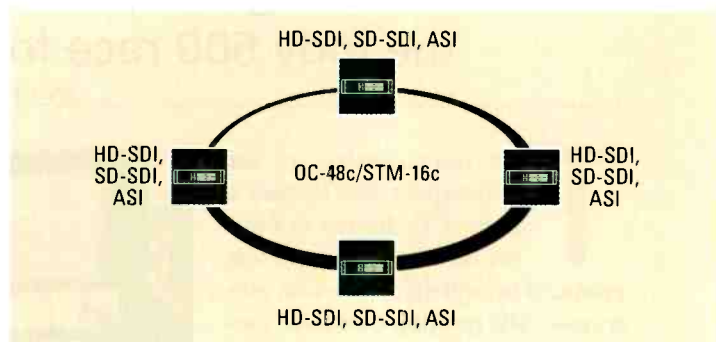

Figure 4. Venue or studio feed to multiple facilities
• **Configuration 4.** A simple drop-and-continue video connection over dark fiber or SONET/SDH. (See Figure 4.)